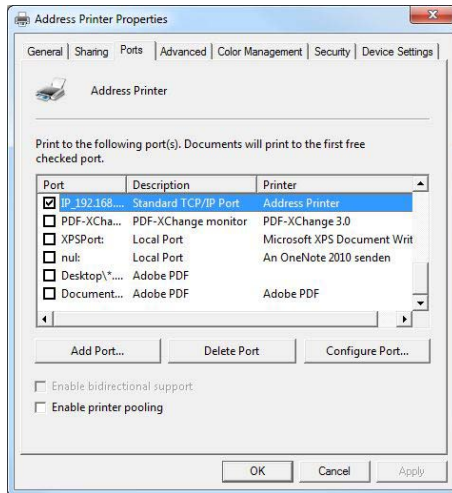

Figure 45: Address printer port settings
- Now this printer driver is ready to send data via the TCP/IP port. Make sure that the box at the new "Standard TCP/IP Port" is checked (see Figure 45).